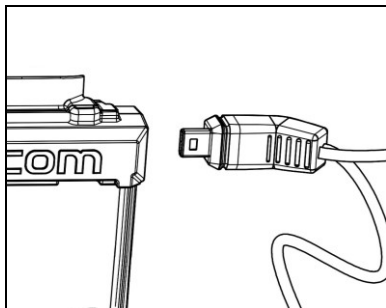

Fig. 6
- Connect the right-hand cable to the port, as shown (Fig. 6).